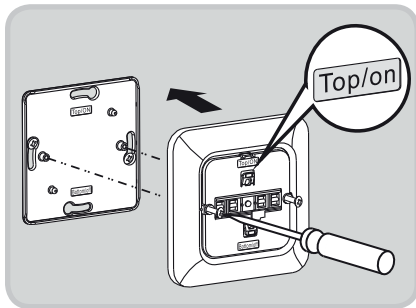

Fig. 12
- Place the insert in the design frame. Screw the insert in to place on the support frame (see Fig. 12).